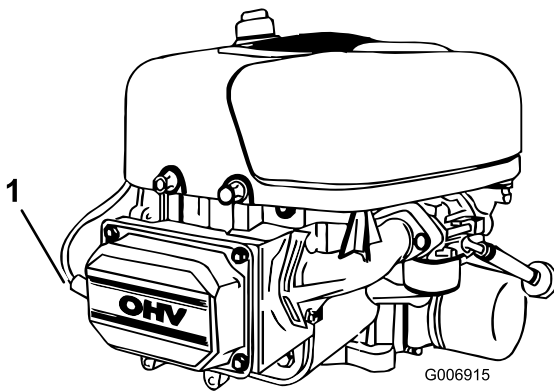

Figure 32
5. Disconnect the wire from the spark plug (Figure 32).
3. Connect the wire to the spark plug (Figure 32).